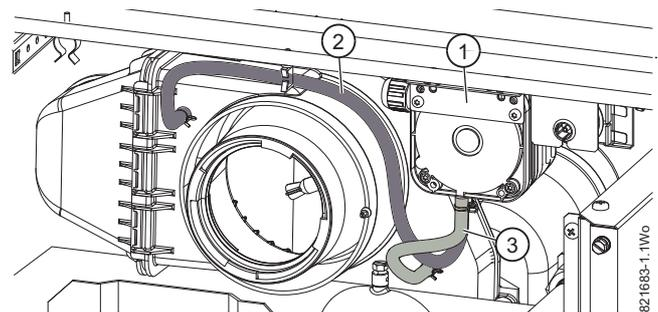

Fig. 83 Sensing tube connections
- ▶ Ensure that the sensing tubes are connected correctly, refer to figure 83